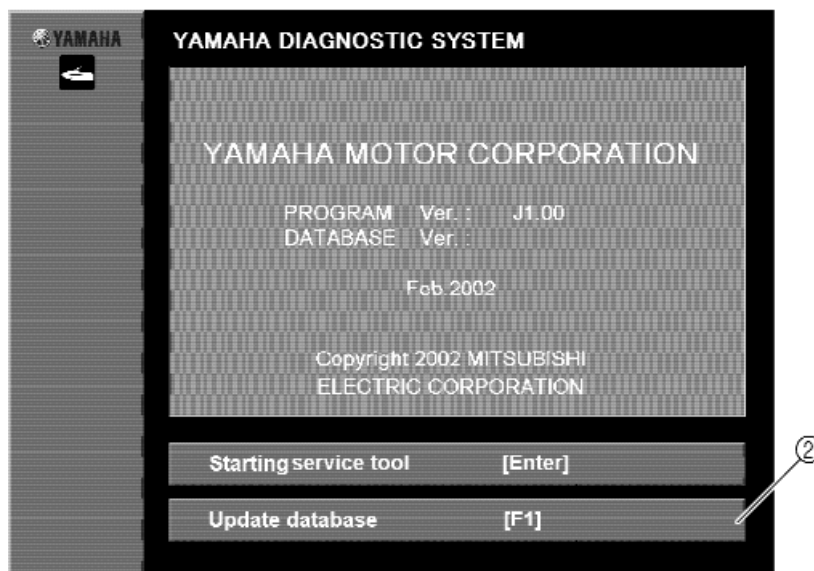

Fig. 12
3. After about three seconds, the display will automatically go to the first menu display, or you can click or press any key to go to the first menu. (See fig. 12.)
4. Click the **Update database [F1]** button or press the F1 key on your keyboard. (Fig. 12)
①